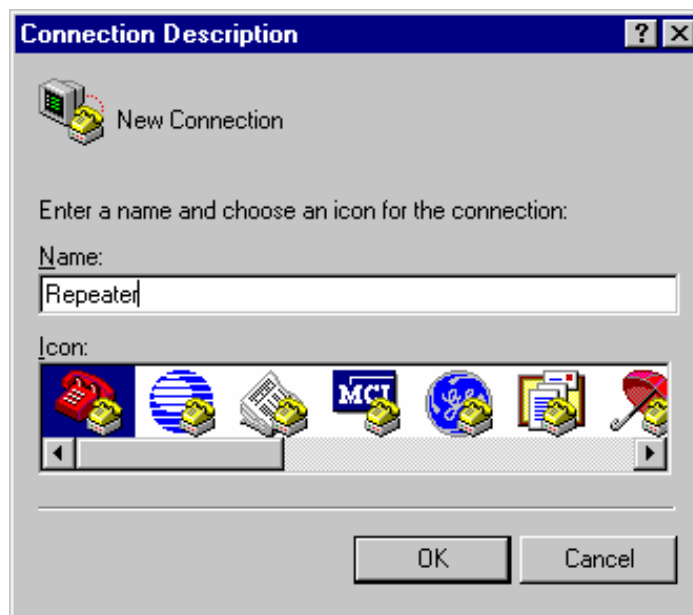

Figure A-1: HyperTerminal Connection Description Window
3. A dialog box will ask you to name the session. Use any name you choose. Select the icon showing the two telephones. See Figure A-1.